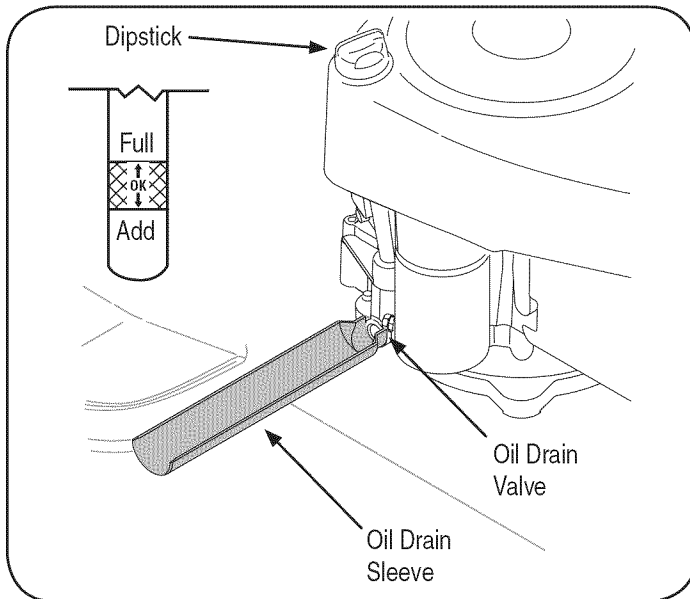

Figure 10
2. Remove the oil fill cap/dipstick from the oil fill tube. See Figure 10.